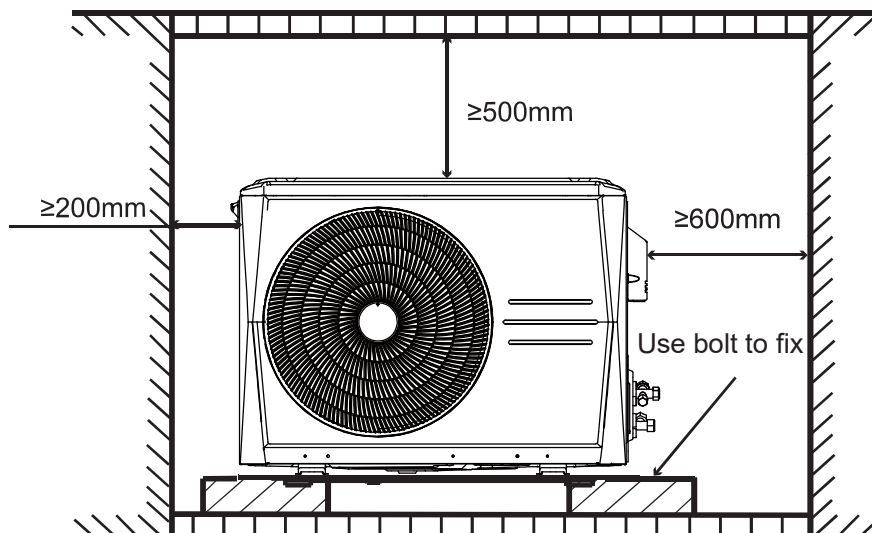
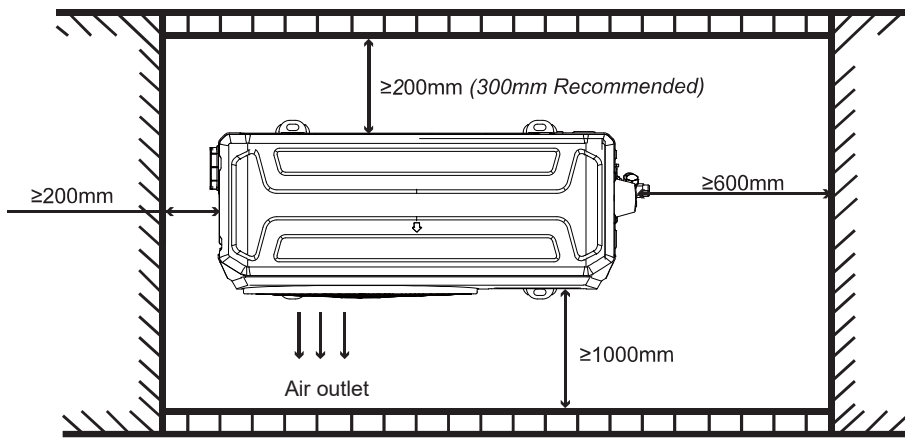

Fig 3-1
Fig 3-2
3.2.1 Outdoor unit installation and maintenance space, see Fig 3-1 and Fig 3-2. (Unit: mm)